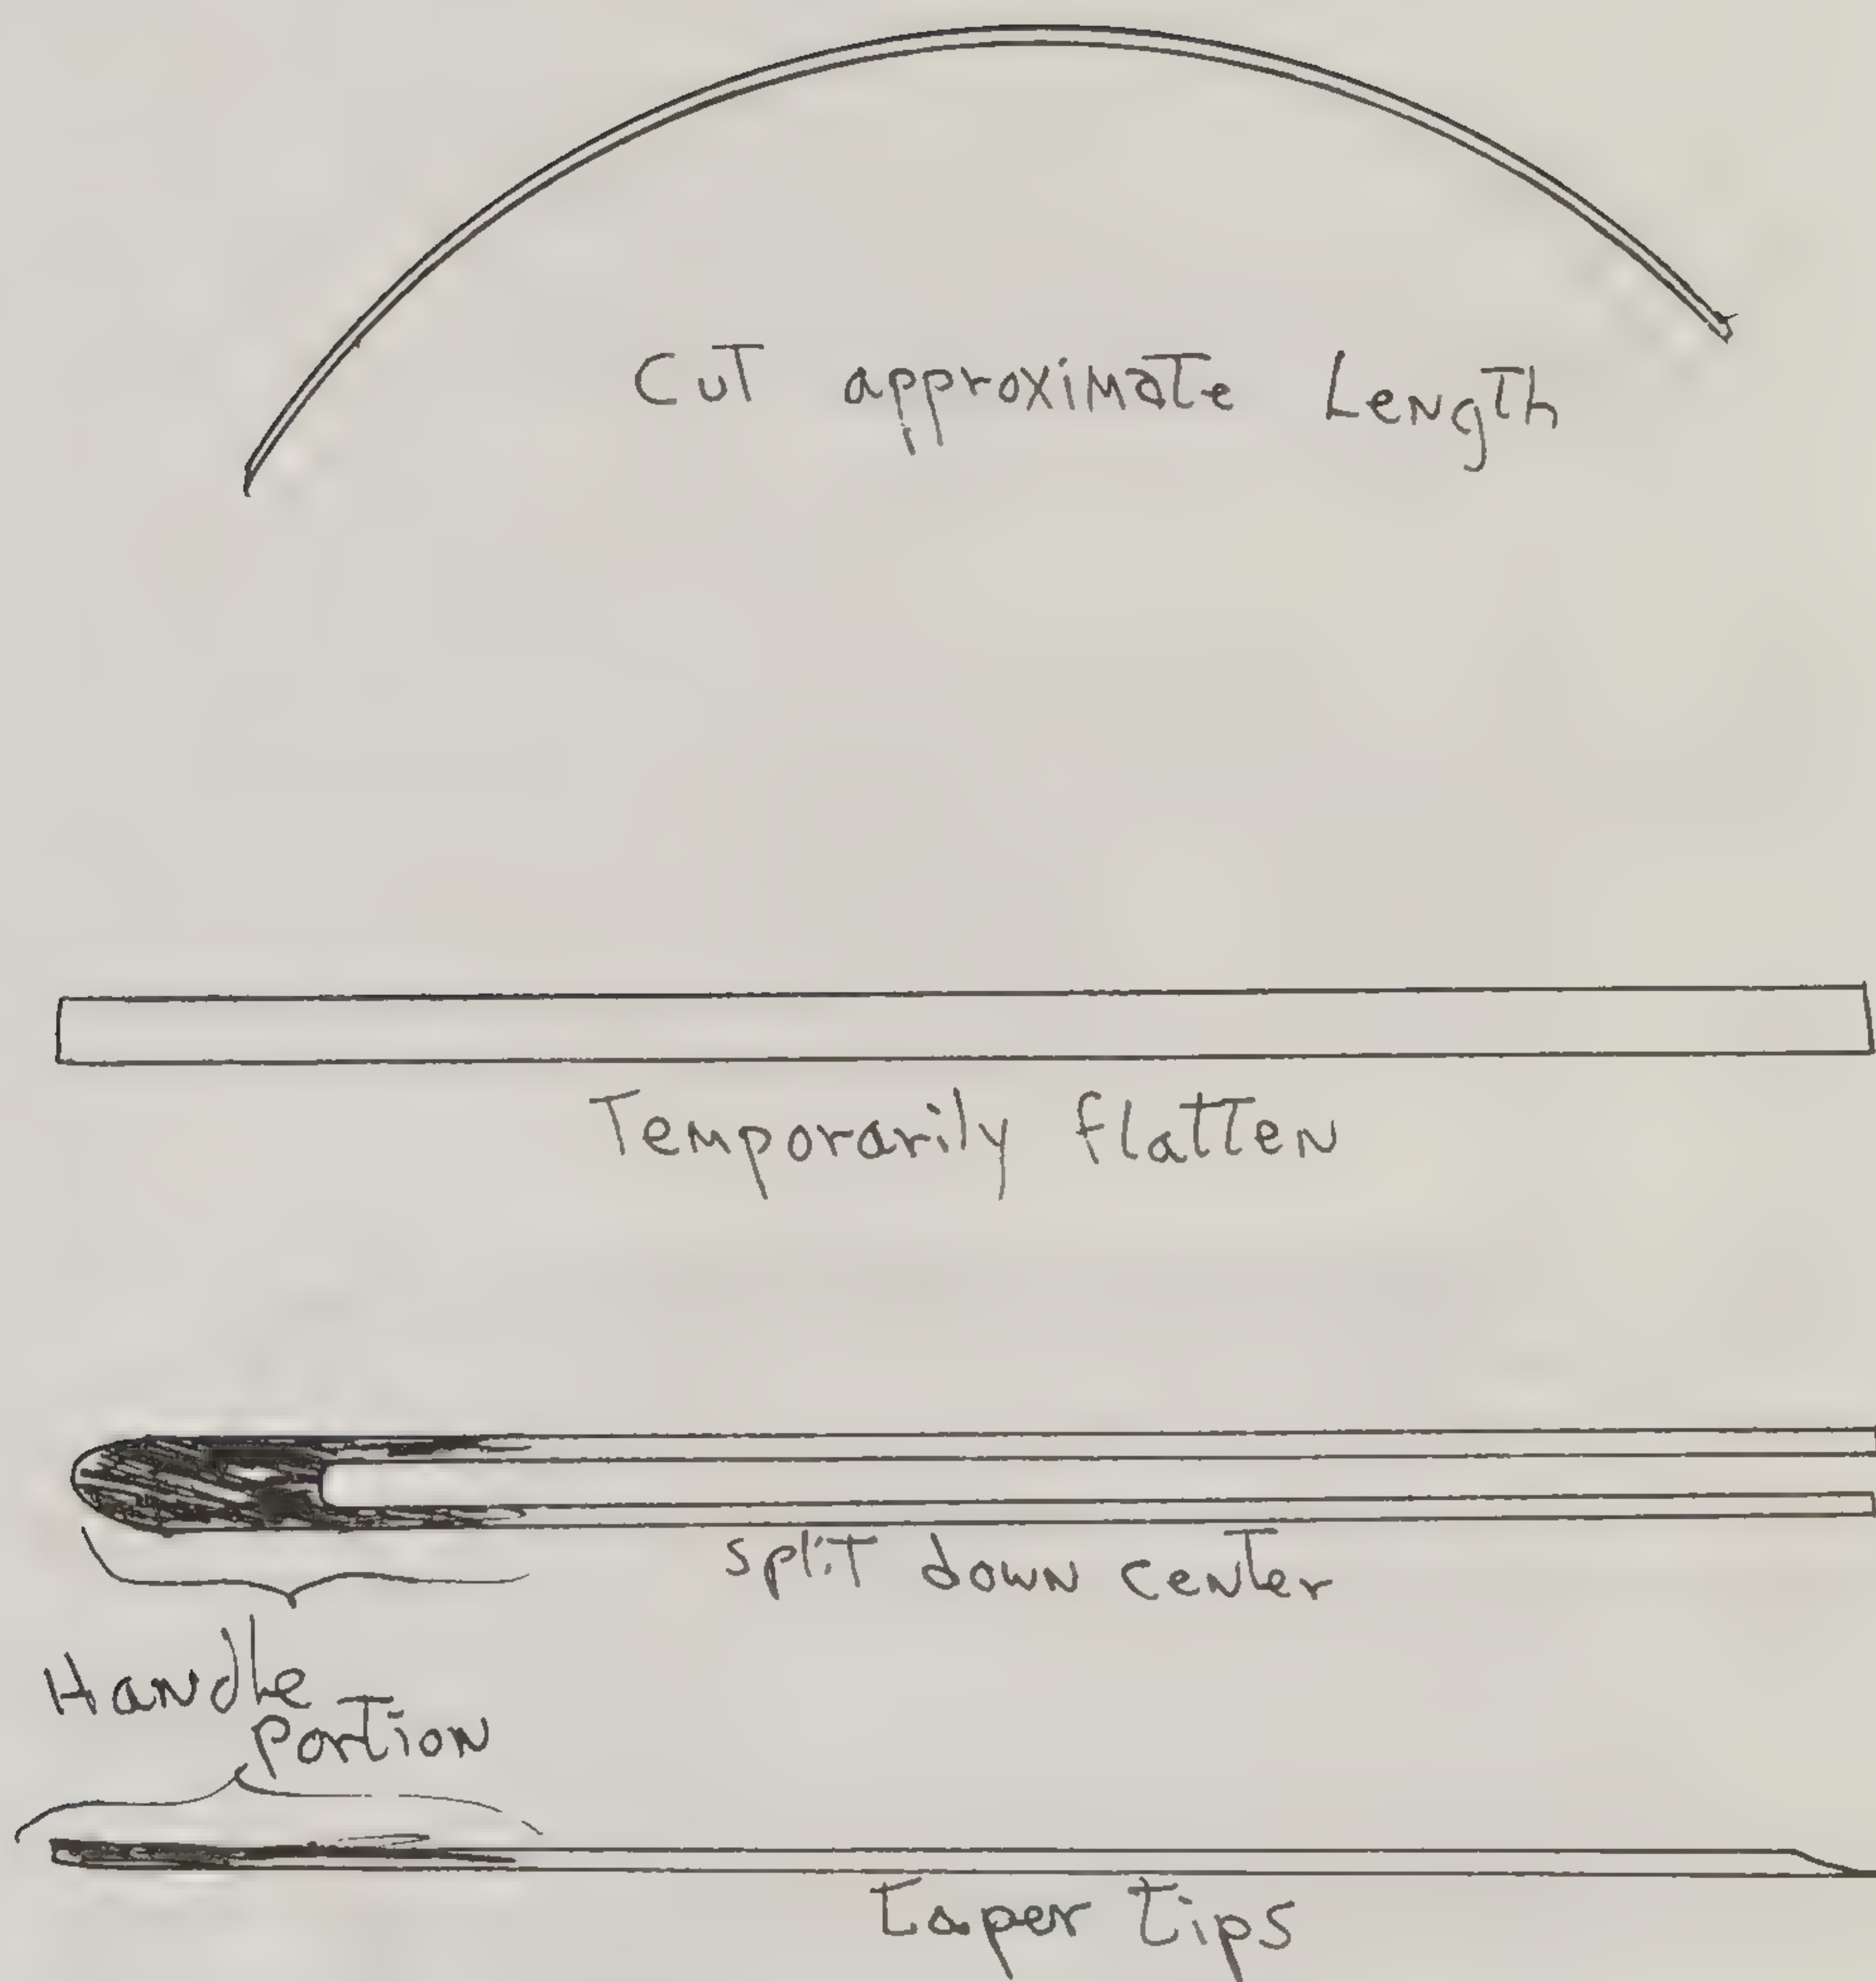

FIG 11
**SPLIT SHIM.** Take a strip of clockspring, approximately 4" long. As above, cut it in half, lengthwise and smooth down the rough edge. The next step is creation of the 'split' in the shim. Carefully cut down the center of the shim, allowing yourself about 1 1/4" at the base for a handle. Finally, taper both tips, both on the sides and on the tip ends. FIG 11 illustrates the procedures required.